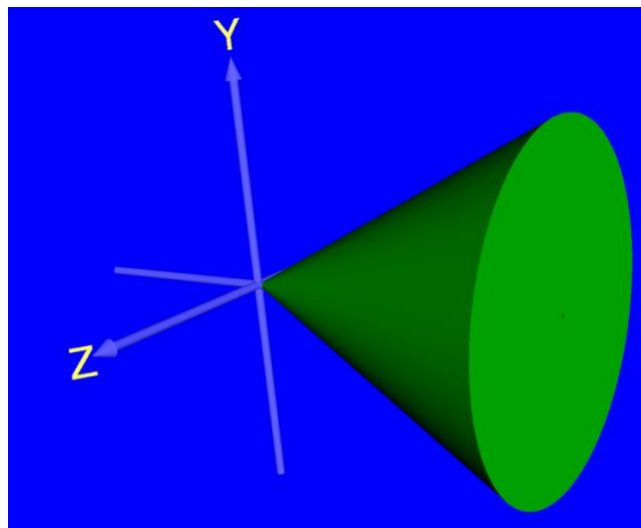

Fig 12. Solid cone with $u, v, w \in [0 \ 1]$ and resolution of $[75 \ 75]$
7. solid cone.wrl - Shows a solid cone as per Fig 12's specifications